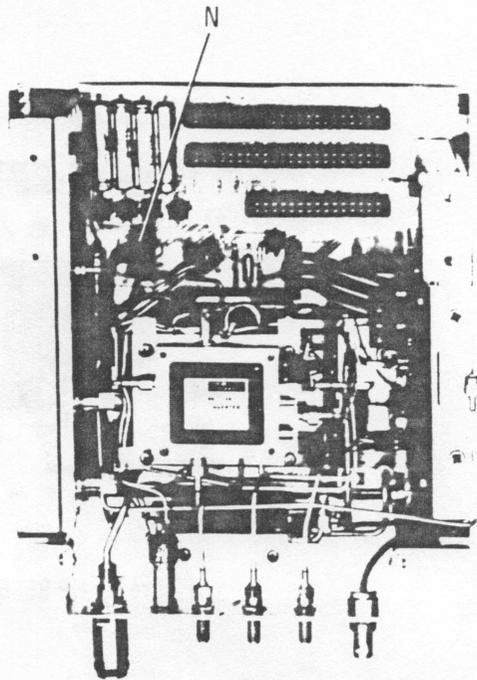

Figure 8. HP 85660A/B RF Module
- d. Disconnect A6A2 RF Attenuator Ribbon Cable from A6A13J5 on RF Module Motherboard Assembly (N), Figure 8, and remove A6A2 RF Attenuator from RF Section.